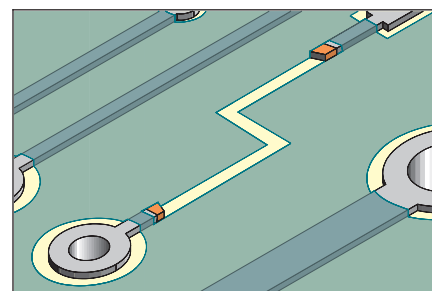

Figure 1 Scrape off any coating from ends of remaining conductors.
3. Use a knife and scrape off any solder resist or coating from the ends of the remaining conductor. (See Figure 1.)